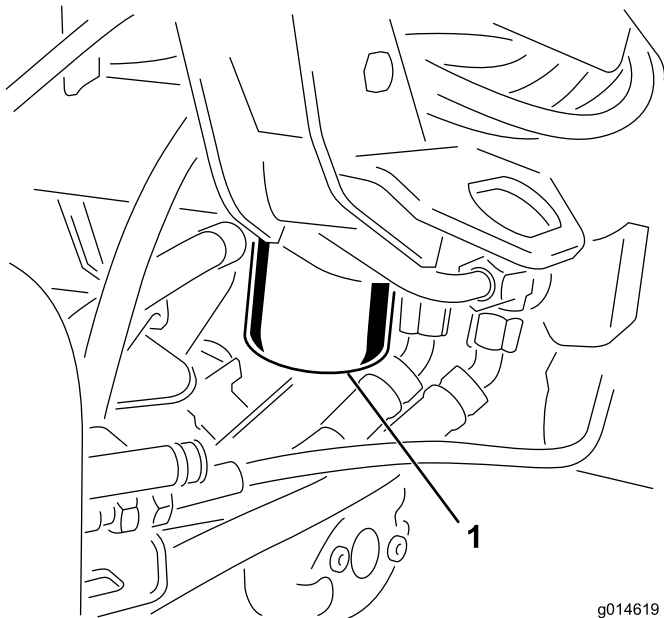

Figure 47
1. Clean the area around the filter mounting area (Figure 47). Place a drain pan under the filter and remove the filter.